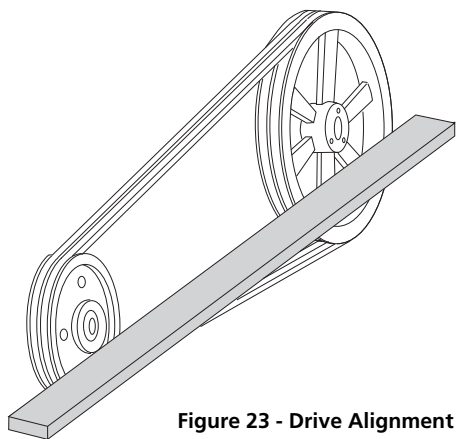

Figure 23 - Drive Alignment
3. Check the alignment by using a straight edge across both sheaves as shown (See Figure 23).